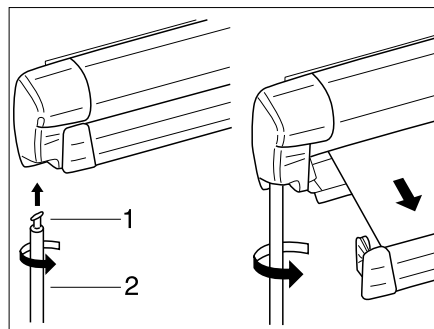

Fig. 40 Awning
- Insert the hook (Fig. 40,1) of the crank rod (Fig. 40,2) into the lug and turn by 90°.